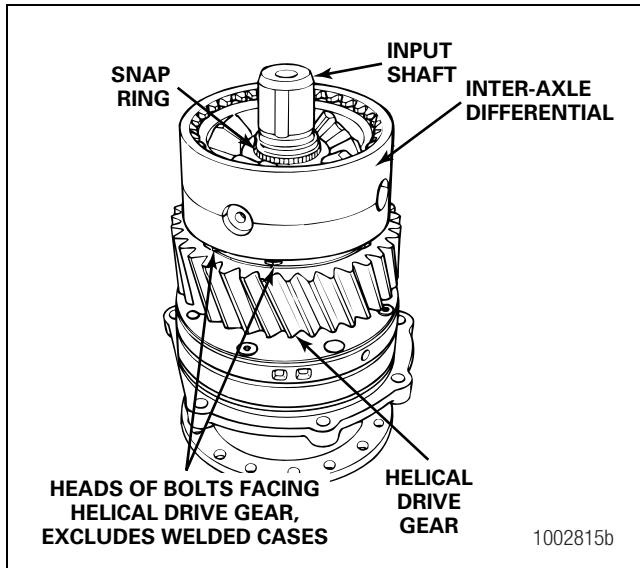

Figure 5.75
- 11. Install the inter-axle differential to the input shaft so that the teeth in the differential case are away from the helical drive gear. Install the snap ring that fastens the case to the shaft. Figure 5.75.